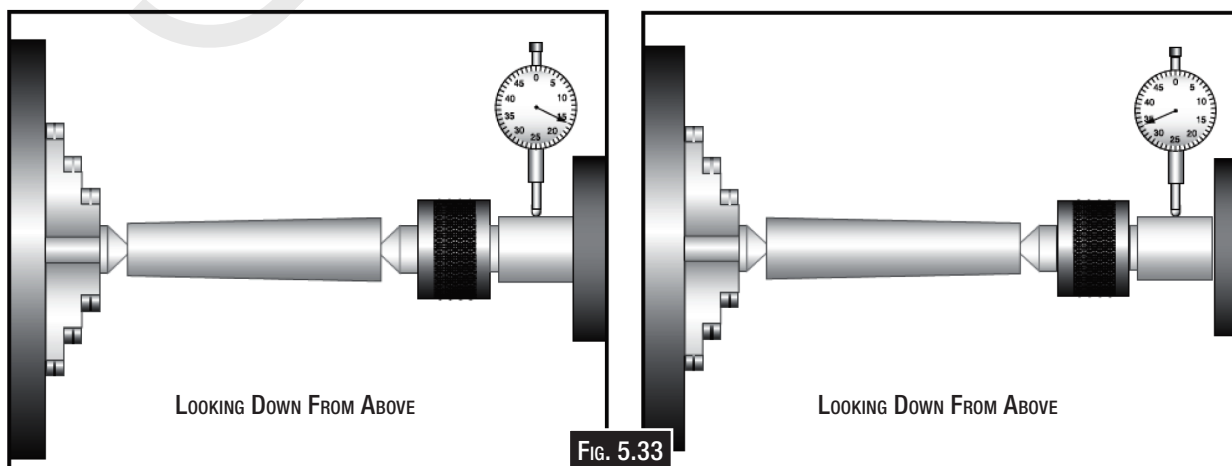

FIG. 5.33
4. Attach a lathe dog to the chuck bar stock from step 1, and mount between the centers (Fig. 5.33).
6. Mount a dial indicator so that the plunger is on the tailstock quill (Fig. 5.33).
7. Measure the stock with a micrometer. If the stock is wider at the tailstock end, the tailstock needs to be moved toward the front of the lathe half the amount of the taper. If the stock is thinner, at the tailstock end, the tailstock needs to be moved toward the rear of the lathe by half the amount of the taper (Fig. 5.33)